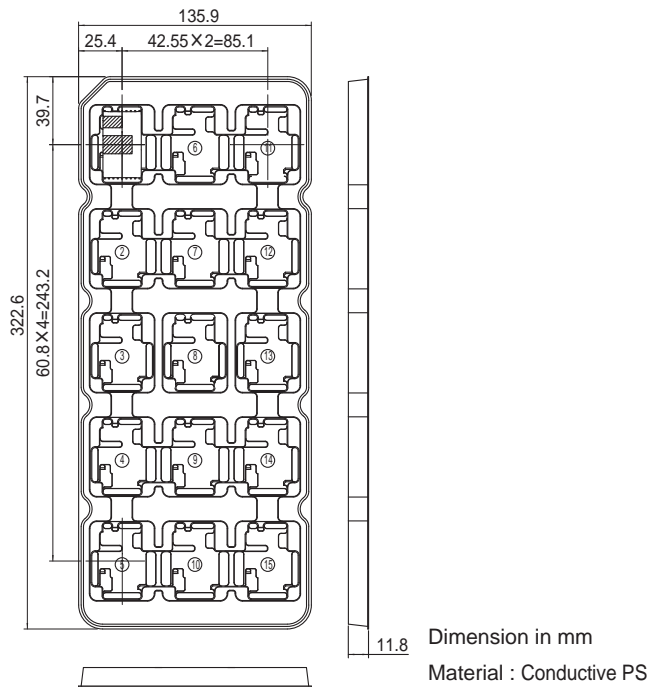

Fig.9.1 Delivery package information (SFLS10/SFLS15)
- These are packed in a tray (Fig.9.1, 9.2).